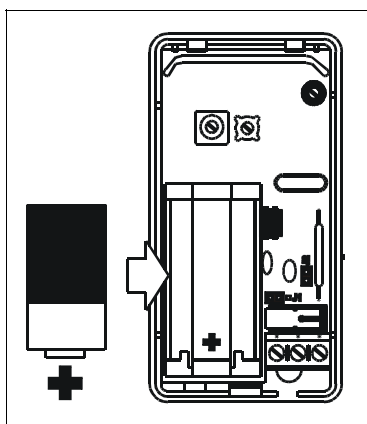

Fig. 3. Installing the battery
2. **Insert the battery.** Observe battery polarity. Insert battery with positive (+) terminal toward terminal block. See Fig. 3. The battery will not make contact if inserted backwards.